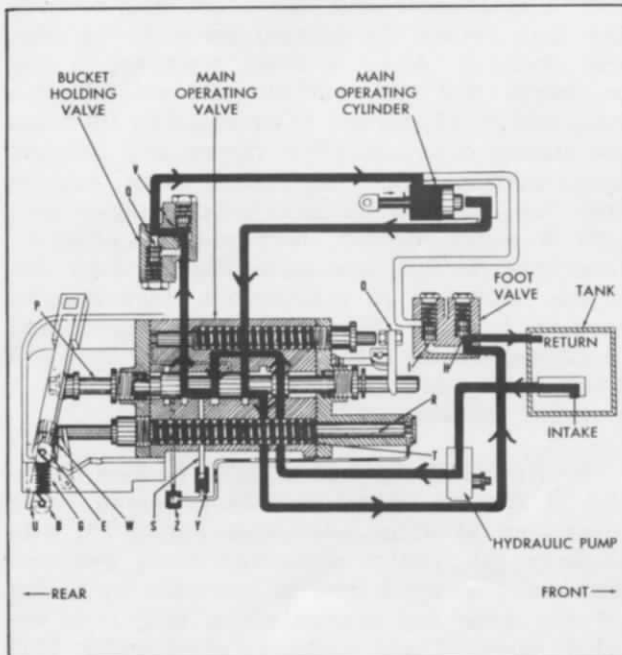

Figure 14 - Lowering Body, Raising Bucket
c. RAISING BUCKET OR LOWERING BODY. (See figure 14.)
(1) RAISING BUCKET. Operating lever is shifted to rear position which moves plunger P to position shown. As indicated by arrows, oil from tank passes to pump and valve. From the side outlet pipe on the valve the oil flows through the bucket holding valve, opening plunger V to allow oil to pass. From there it enters the upper end of the operating cylinder and causes the piston to travel inward, which pulls rack gear forward and operates bucket. The return flow of oil from the lower end of the cylinder flows directly back to the main operating valve. From there it passes through the foot valve and into the tank. When bucket reaches highest position, the piston rod strikes the bottom of cylinder and causes a higher oil pressure to build up. This pressure, through the 3/8 inch diameter oil line beneath the main valve, exerts pressure on reversing plunger R and forces it outward, compressing spring T. As the plunger comes out, the lever W pivots against the upper end of lever U, causing it to turn so lower end of U pushes lower roller arm B far enough so tension of spring G will pull rollers to center position of cam. Since this puts valve plunger P in neutral position, there is no longer any pressure on plunger R which is pulled inward by spring T. Lever W, attached to the plunger, pulls top roller E and both top and bottom roller arms to forward position, which moves plunger P to lowering bucket position and oil flow is then as explained under that heading.
(2) BUCKET REVERSING DETAIL. Referring to figure 14, note ball-type check valve Y and restricting valve Z which are located in the 3/8 inch diameter tubing directly under the main valve. The ball check opens and allows oil from supply line S to operate plunger R outward to reverse valve mechanism as explained. When plunger R returns to inward position the ball check is closed so that return oil forced out by the plunger must pass through the restricting valve Z. This is a needle-type valve with a very small oil passage, so that flow of oil is slowed and plunger R will move slowly to
(3) LOWERING BODY. Position of operating lever and valve is the same as for raising bucket. Oil flow through system is also the same. The arrows show oil being pumped under pressure into upper end of cylinder. Due to the weight of the body, the piston is forced into the cylinder faster than the pump is able to deliver oil to the cylinder, which tends to leave an empty space in the upper end of the cylinder. To overcome this, the oil that is forced out of the lower end of the cylinder flows through the foot valve and back into the upper end of the cylinder. Referring to the figure 14, note arrows showing oil flowing from lower end of cylinder through main valve to foot valve. Spring on plunger H in foot valve is considerably stronger than spring on plunger I, which allows